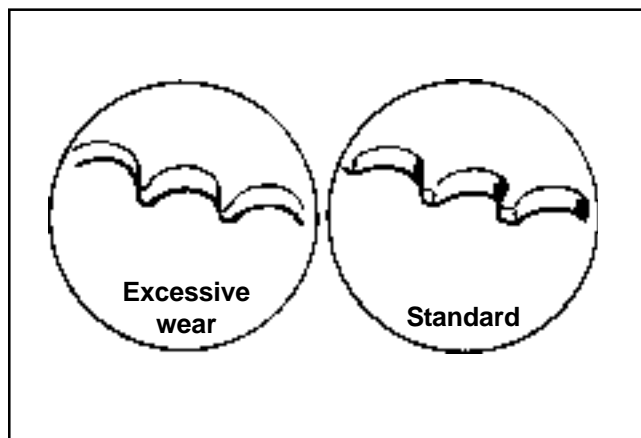

Figure 10-22. Sprocket Wear/Inspection on CS4, CS6.
- a. Inspect all sprocket/gear teeth for excessive wear. If teeth are worn to a point, the gear(s)/sprocket(s) and chain (CS4 and CS6) should be replaced. See Figure 10-22.